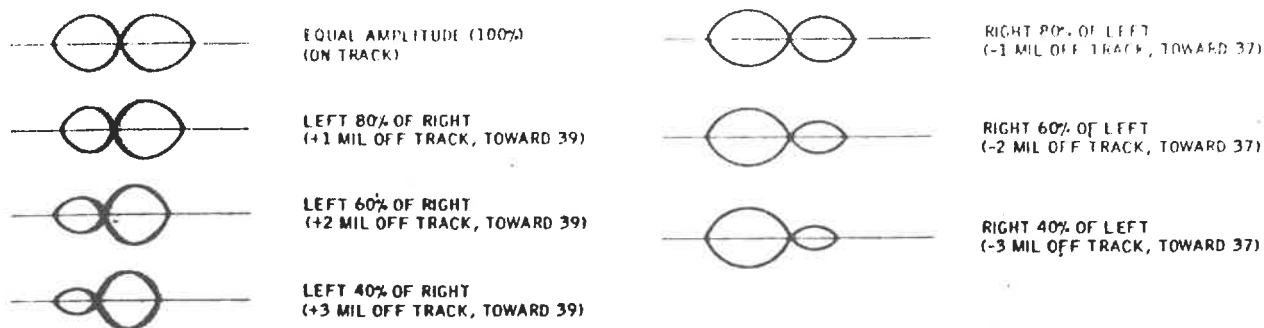

FIGURE 3-4. Cat-Eyes Waveforms
4. The two lobes of the cat-eyes display should be adjusted to obtain equal amplitude as shown in Figure 3-4.